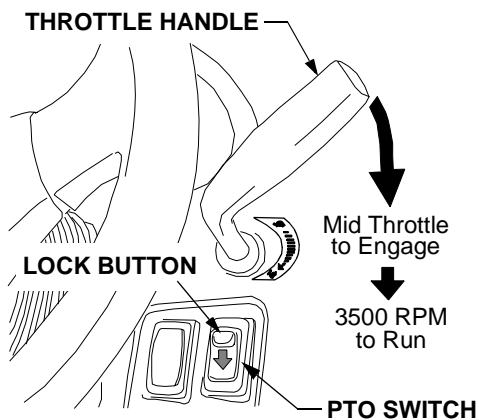

Figure 21
- Move the throttle handle to the mid throttle position. See Figure 21.
- Slide the lock button rearward and then push the top of the PTO switch downward to engage the PTO. See Figure 21.